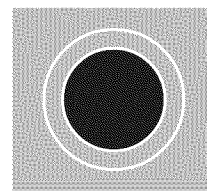
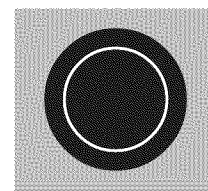

Figure 3
Figure 4
2. Push in and turn the control knob counterclockwise for smaller cookware (See Figure 3) or clockwise for larger cookware (See Figure 4).